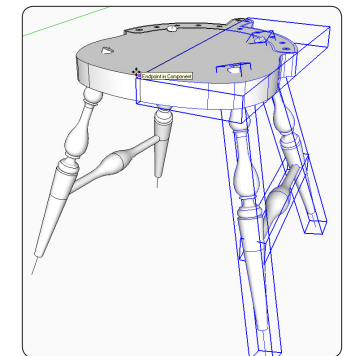

Figure 42. Copy the half chair and join it to the original.
Step 14 Select all the components of the half chair. Use the Move/Copy Tool to make a copy and move it to the right, along the red axis. Use the Flip Along function. Join the two halves, using the top front corner as the connection point, as shown in Figure 42.